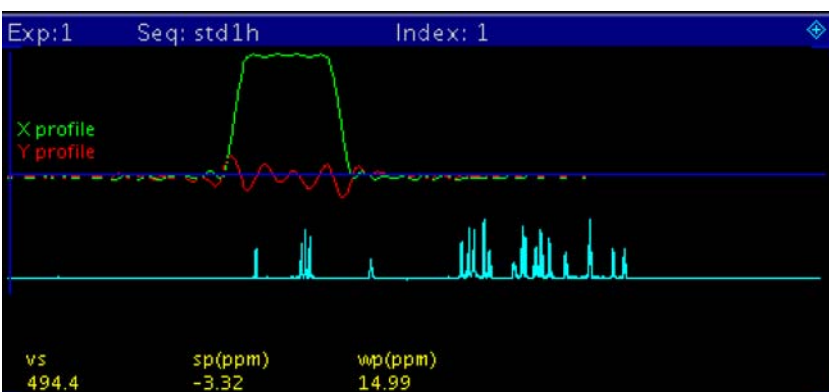

Figure 116 Shaped Pulse Simulations Reference Spectrum
- 15 Request simulations, see Figure 116, as follows: